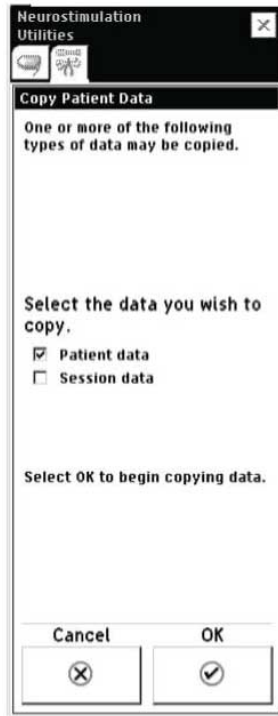

Figure 14. COPY PATIENT DATA screen.
4. Select the checkbox for the type of data to be copied (Figure 14).